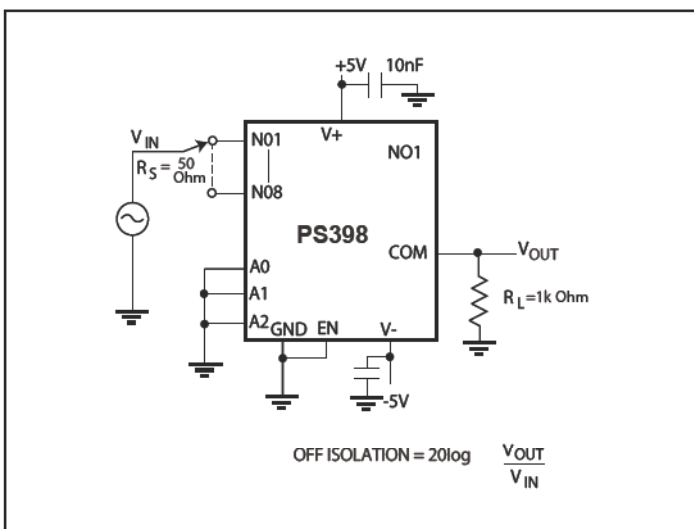

Figure 5. Off Isolation
7. Off Isolation = $20 \log_{10} V_{COM} / V_{NO}$. See Figure 5.
- Off Isolation = $20\log_{10} \frac{V_{COM}}{V_{NO}}$. See Figure 5.